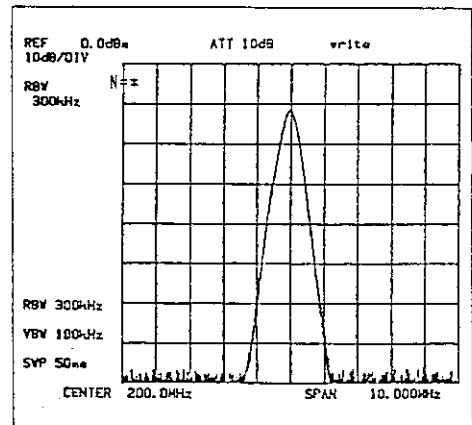

Figure 3-21 Signal to be Measured
- ① First, adjust the spectrum of the signal to be measured at the center of the CRT. Then, select the measurement conditions (frequency span, sweep time, and others) for easier signal observation. Set RBW at 300 kHz (See Figure 3-21).